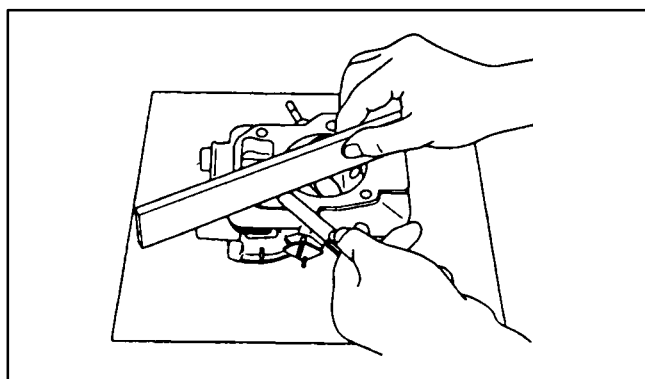

FIGURE 10-19. CYLINDER HEAD FLATNESS
1. Clean the cylinder head surface and measure flatness with a straight edge and feeler gauge (Figure 10-19).